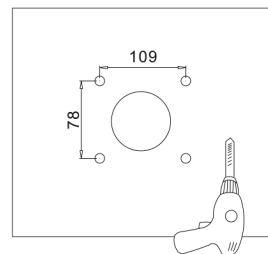

Figure 2-1
- 1.Cut holes on the wall according to locating plate (Figure 2-1)